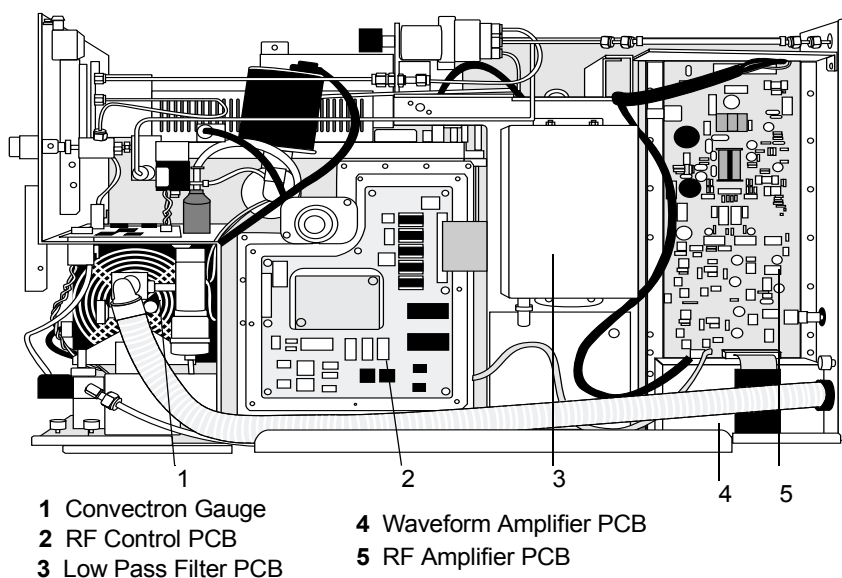
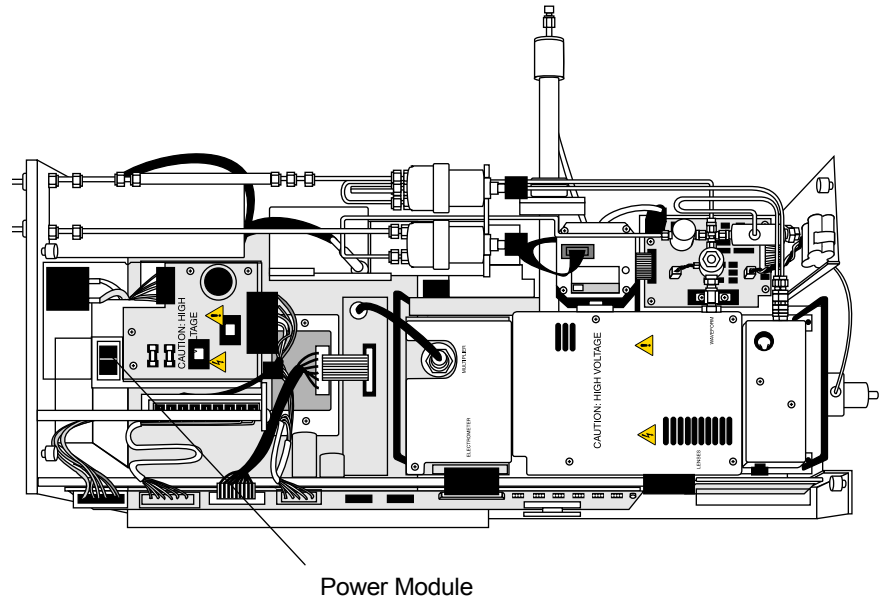

Figure 7-18. GCQ Plus with Right Cover Removed
Figure 7-19. GCQ Plus with Top Cover Removed, Showing the Power Module
Figure 7-18 shows some of the parts replaceable from the right side of the GCQ *Plus*. The power module is shown in Figure 7-19 on page 7-41. The transfer line is shown in Figure 7-25 on page 7-53.
5. Remove the Power Module (shown in Figure 7-19) by its handle. Replace it with a new one.